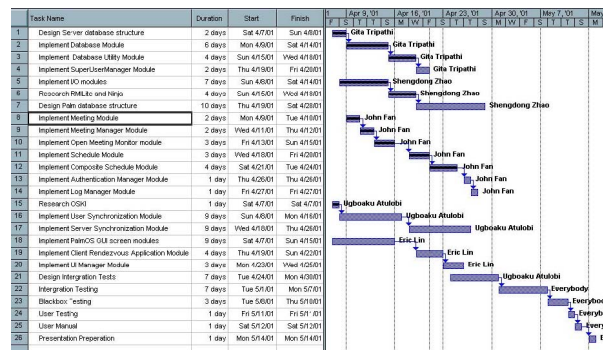

Figure 11.3: An example of a Gantt chart.
Step 4. The first path has a duration of 11, which is longer than the other paths, so it's the critical path. The schedule can also be displayed using a Gantt chart (Figure 11.3).